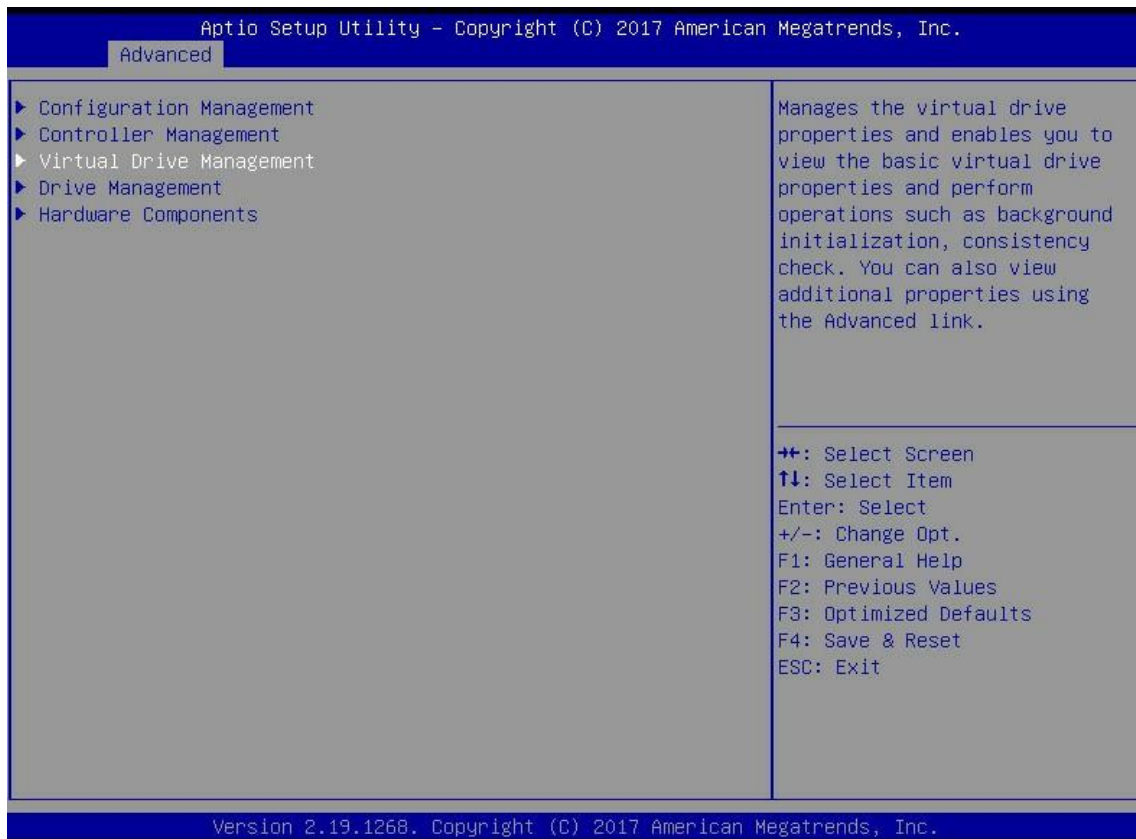

Figure 6-36
a) As shown in Figure 6-36, select virtual drive management in the raid card configuration interface and press enter.